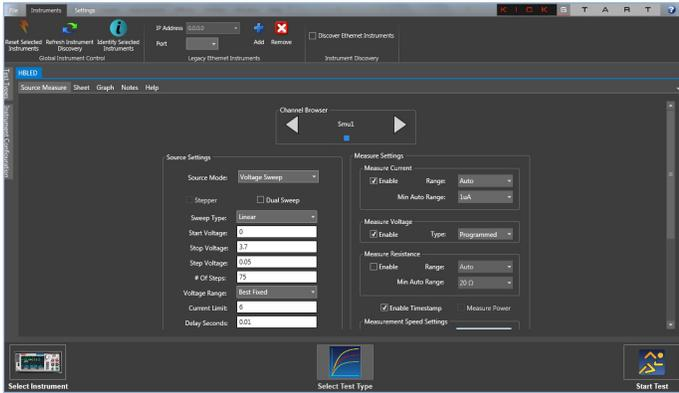

Figure 11: KickStart source and measure settings screen
- Right-click the **I-V Characterizer** test type and select **Add Test Type**. The Source Measure Settings window opens. (See **Figure 11**.)